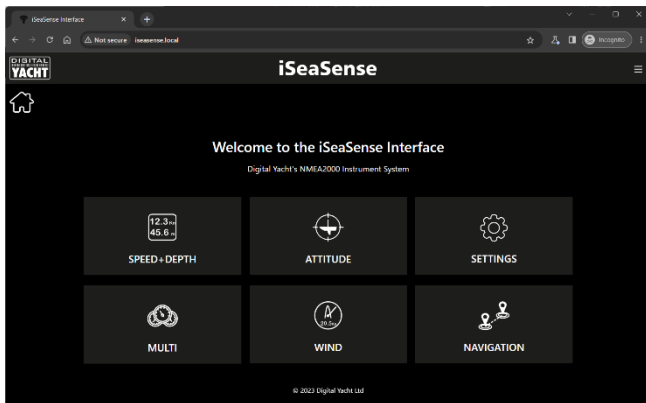

Figure 1
- A wireless device, connected to iSeaSense, can access its web interface in a browser at <http://192.168.1.1> or <http://iSeaSense.local> which should bring up the iSeaSense home page as shown in Figure 1.